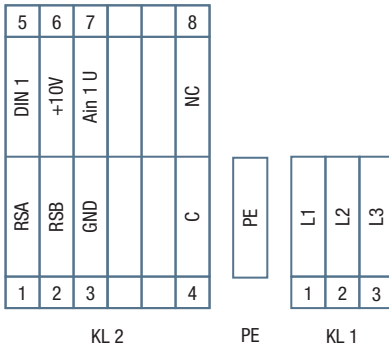

Fig. 14: M5 Wiring Diagram
Three-phase EC plug fans utilise an M5 wiring interface. The power and control wiring terminals are shown in Fig. 14
Power wiring terminals found on the interface (i.e. terminals 1, 2 and 3 denoted on KL1 block in Figure 14) correspond to the power supply connections. PE terminal is the protective earth terminal. See appendix for recommended M5 power wiring diagram.
Status relay connection is done via terminals 8 (NC) and 4 (C) (see Figure 14). When mains power is not applied to the fan (i.e. the fan is not energised) the NC – COM circuit will be open. The NC contact relay is normally closed but will open upon fan faults, including: